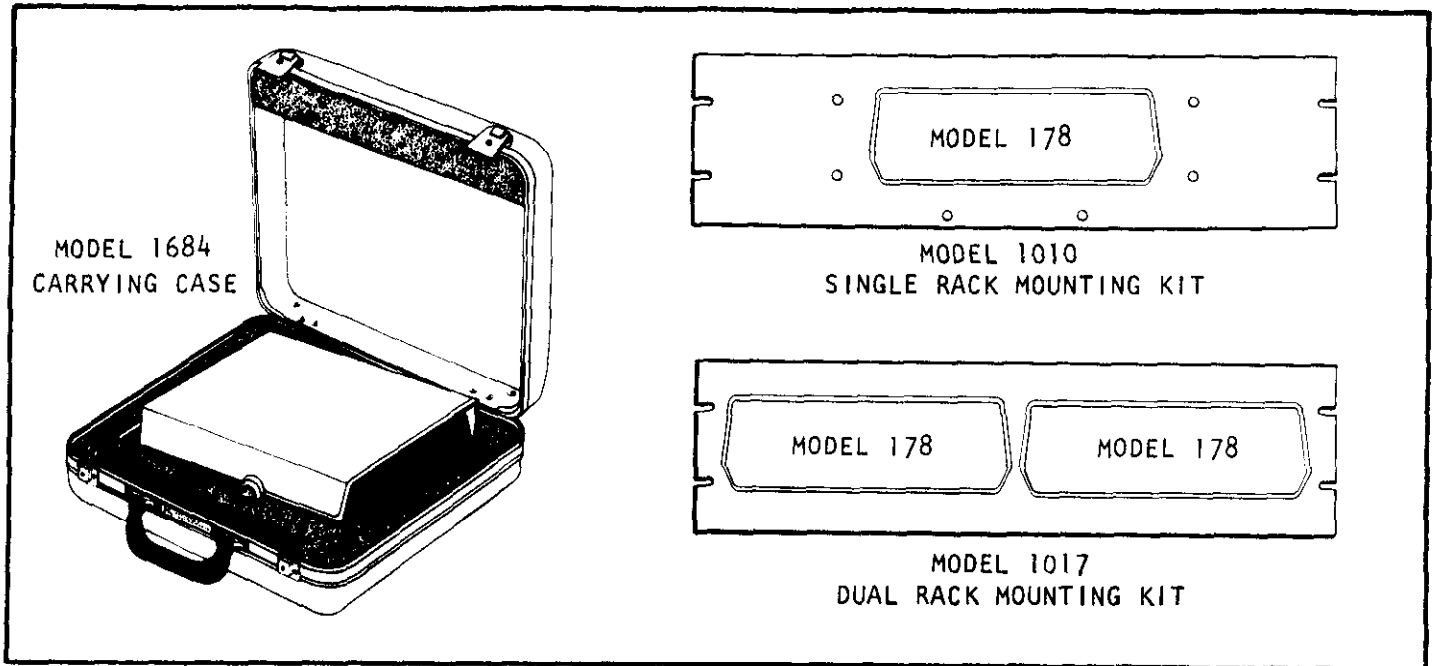

FIGURE 2-7. Carrying Case and Rack Mounting Kits.
g. Model 1684 Carrying Case. The Model 1684 Carrying Case (Shown in Figure 2-7) is a hard vinyl case with a fitted foam insert to help protect the Model 178 DMM from damage. There is also room in the case for this instruction manual and other small accessories.
h. Models 1010 and 1017 Rack Mounting Kits. The rack mounting kits (shown in Figure 2-7) permit mounting one or two Model 178 DMM's in a rack for convenient viewing.